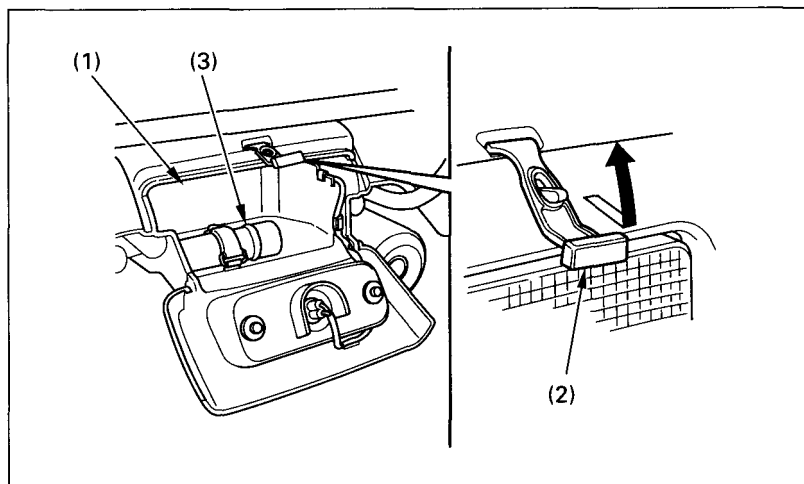

Fig. 2-21 (1) Storage compartment
The storage compartment (Fig. 2-21) is below the rear cargo rack. To open the compartment, unhook the rubber strap (2). The tool kit (3) should be stored in the storage compartment.